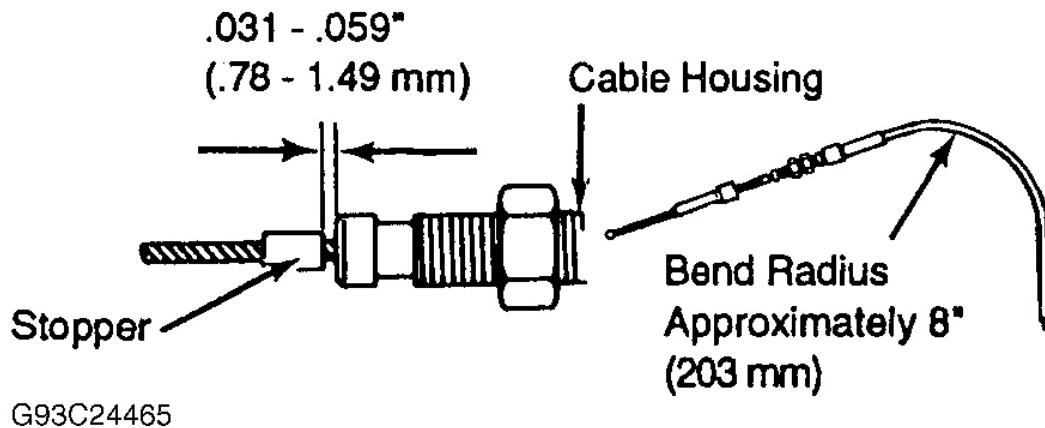

Fig. 5: Locating Throttle Cable Stopper
2. Pull inner cable lightly, until a slight resistance is felt, and hold in place. Stake stopper on inner cable, leaving a .031-.059" (.78-1.49 mm) gap between cable housing and stopper. See **Fig. 5**.